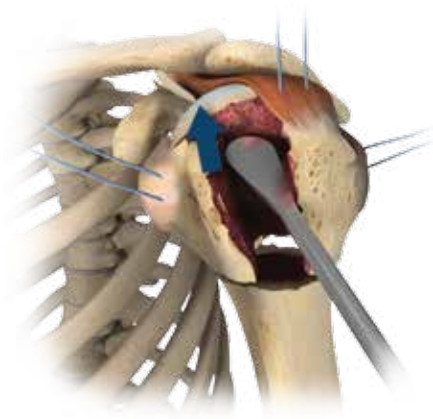

Figure 5
- Insert a blunt elevator into the fracture to reduce the head and recreate the natural 135° neck-shaft angle and correct apex anterior angulation (Figure 5)